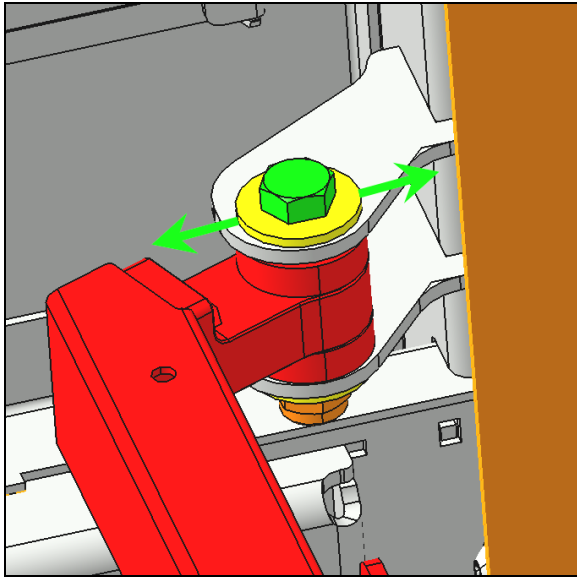

FIGURE 60
- If the longitudinal position is out of tolerance, adjust using the adjustment provided on the lower attachment point of the arm on the vehicle chassis (FIGURE 60).